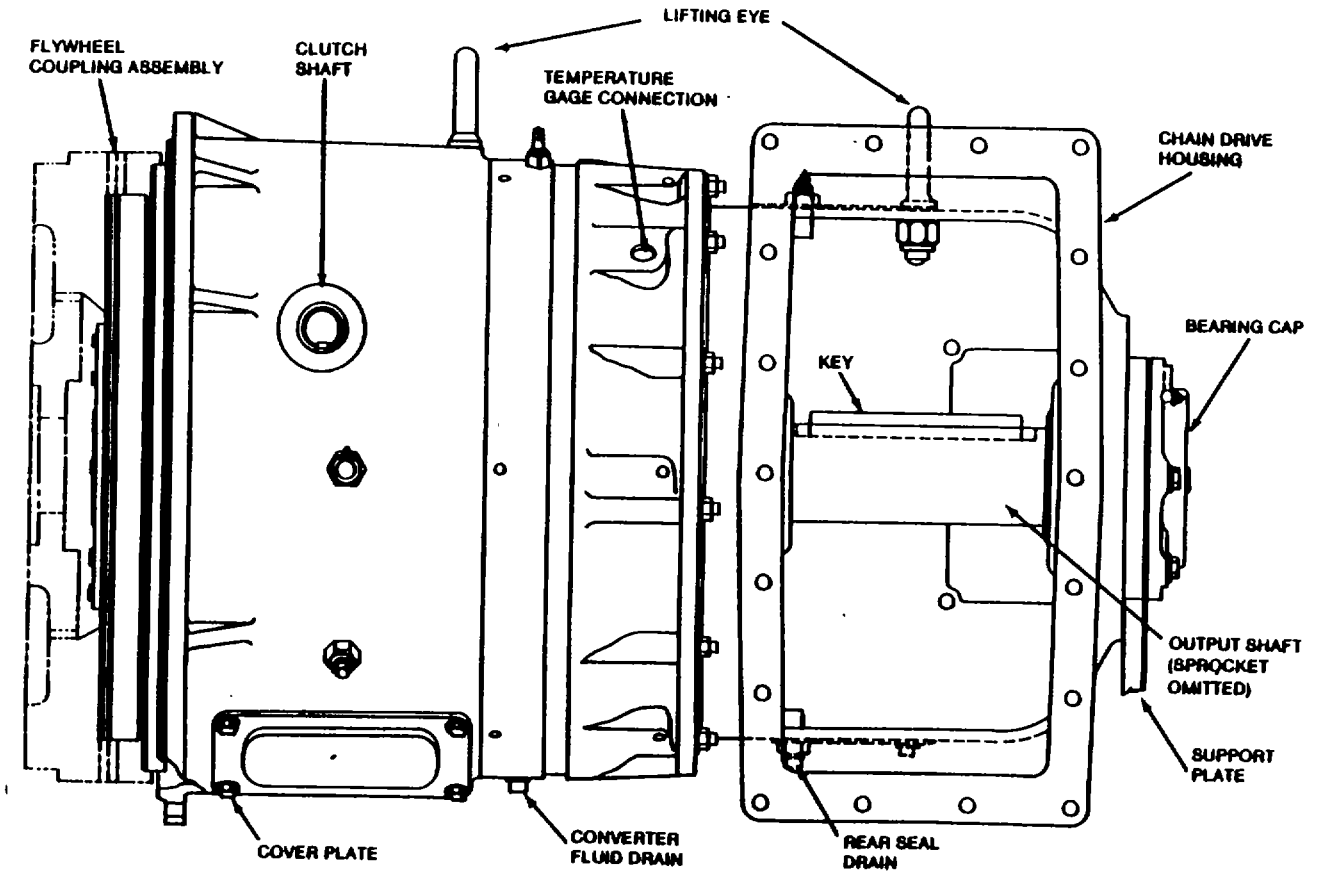

Figure 5-1. Torque Converter Removal and Installation.
- a. Refer to figure 5-1 and remove torque converter mounting bolts from engine sub frame support plate.